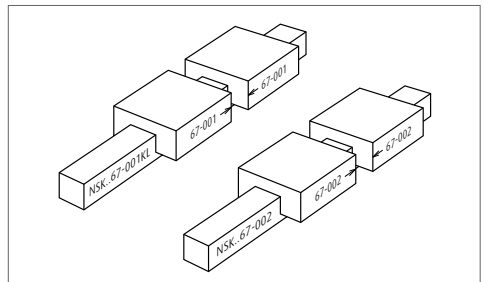

Fig. 29 When two rails have the same reference number
- > When two or more rails are used in a single set, serial numbers are in sequence if their reference numbers are the same. The linear guide with smallest serial number has the "KL" mark (**Fig. 29**).